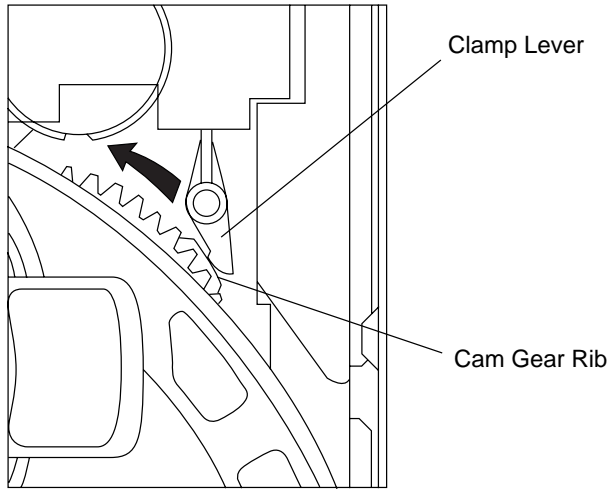

Figure 9-1
2. While holding the lock lever, rotate the cam gear anticlockwise until the cam gear rib engages with the clamp lever. (Fig. 9-1)